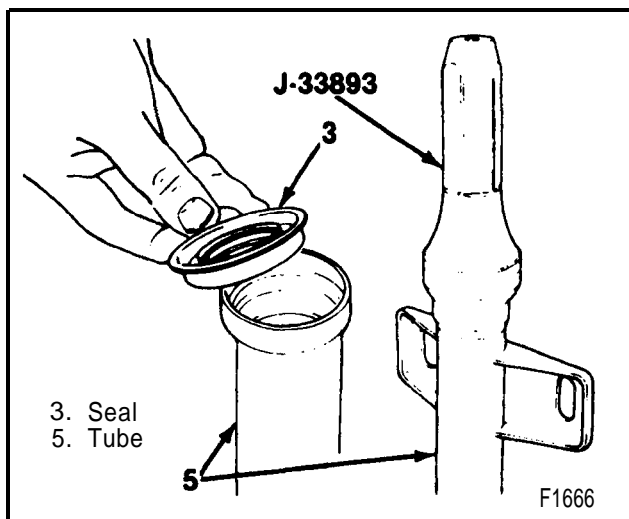

Figure 7 - Installing the Shaft Seal
1. Bearing (4) using J 33844.
2. Seal (3), using J 33893 (figure 7).
3. Shaft (1), taking care not to cut the seal (3).